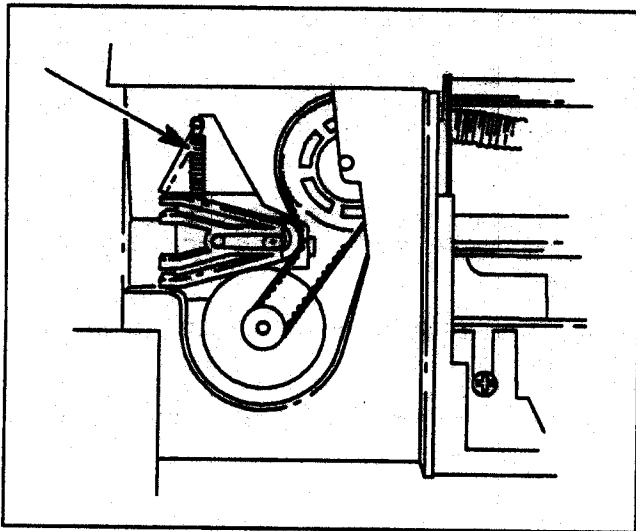

Figure 6-18. Pen Carriage Drive Belt Tensioner
- e. Remove the pen carriage drive belt tension spring with needle-nose pliers or a combination spring tool. See Figure 6-18.